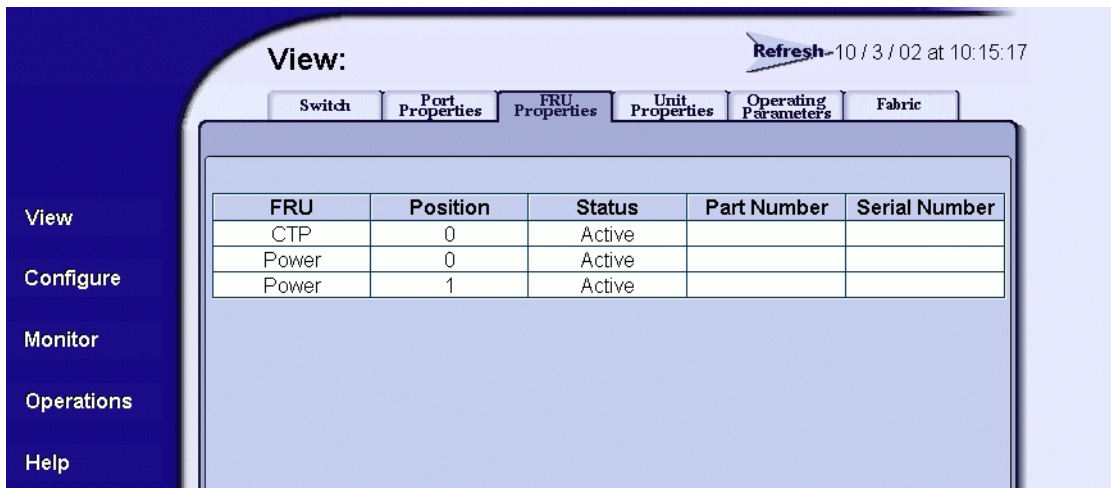

Figure 3-4 View Panel (FRU Properties Tab)
- a. At the *View* panel, click the *FRU Properties* tab. The *View* panel (*FRU Properties* tab) displays (Figure 3-4).